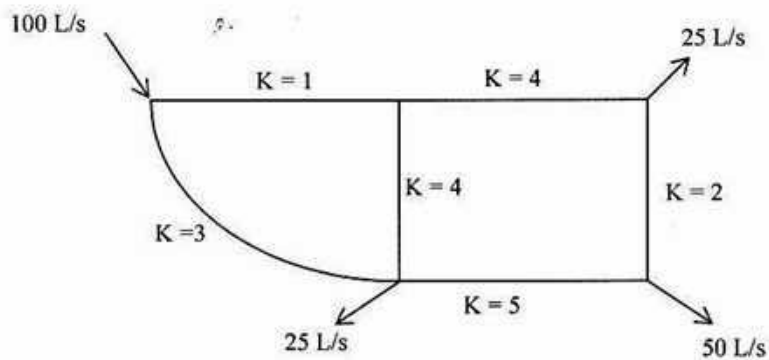

Figure 6
- (b) If the flows into and out of a two-loop pipe system are as shown in figure 6, determine the flow in each pipe. The  $k$ -values for each pipe are given in the figure. Use Hardy Cross method. 10